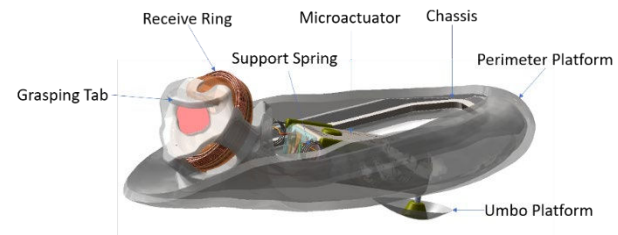

Figure 2: Lens
The Lens (Figure 2) is designed to receive electromagnetic energy from the Processor and Ear Tip and convert it into mechanical vibrations of the tympanic membrane (TM). These vibrations are perceived as sound. The Lens is customized for each patient and is placed in to position by a trained physician. It is placed at the end of the ear canal on the skin around the TM.